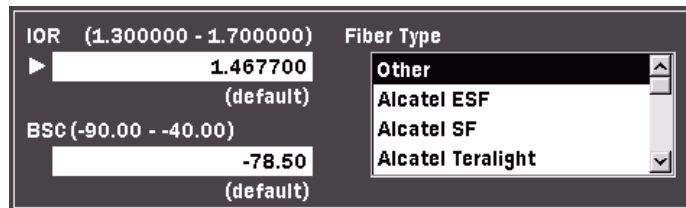

Figure 6-14: IOR/BSC Dialog
2. Press the **Enter key**. The IOR/BSC dialog appears (see Figure 6-14).